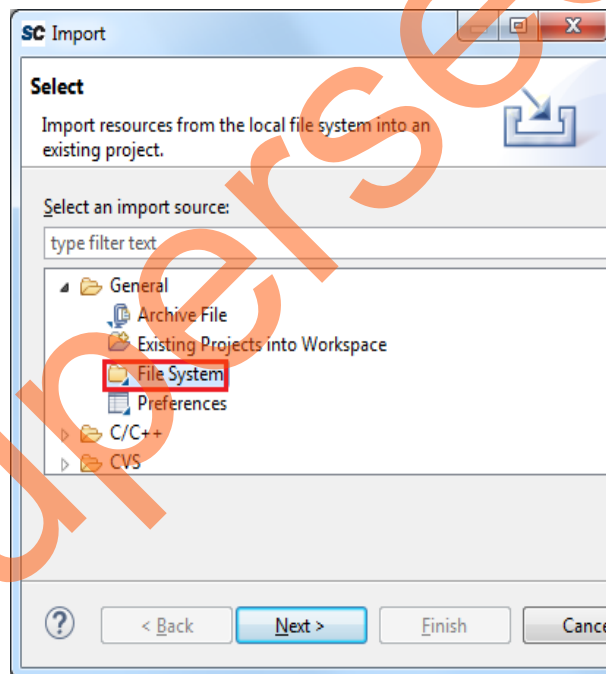

Figure 30 • Import Window
9. **Import** window is displayed, as shown Figure 30.
10. Click **File System** and then click **Next** as shown in Figure 30.